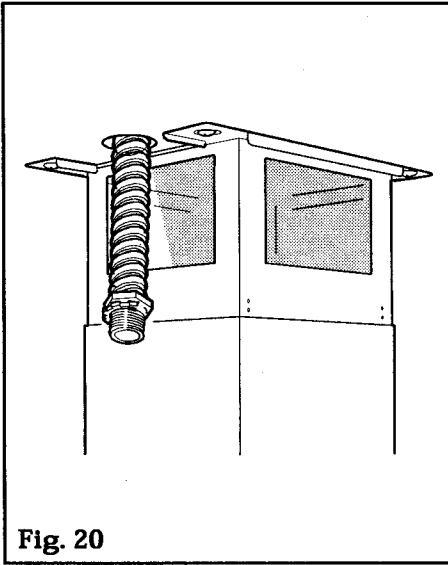

Fig. 20
8. Check if the conduit connector is long enough to reach the junction box on the cooker hood once the installation has been completed (Fig. 20).